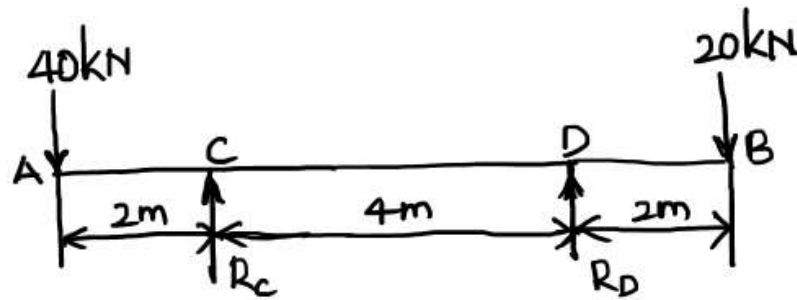

Fig. 3
- 4 a) Draw the SFD (shear force diagram) and BMD (bending moment diagram) for overhanging beam shown in Fig. 3. [7]